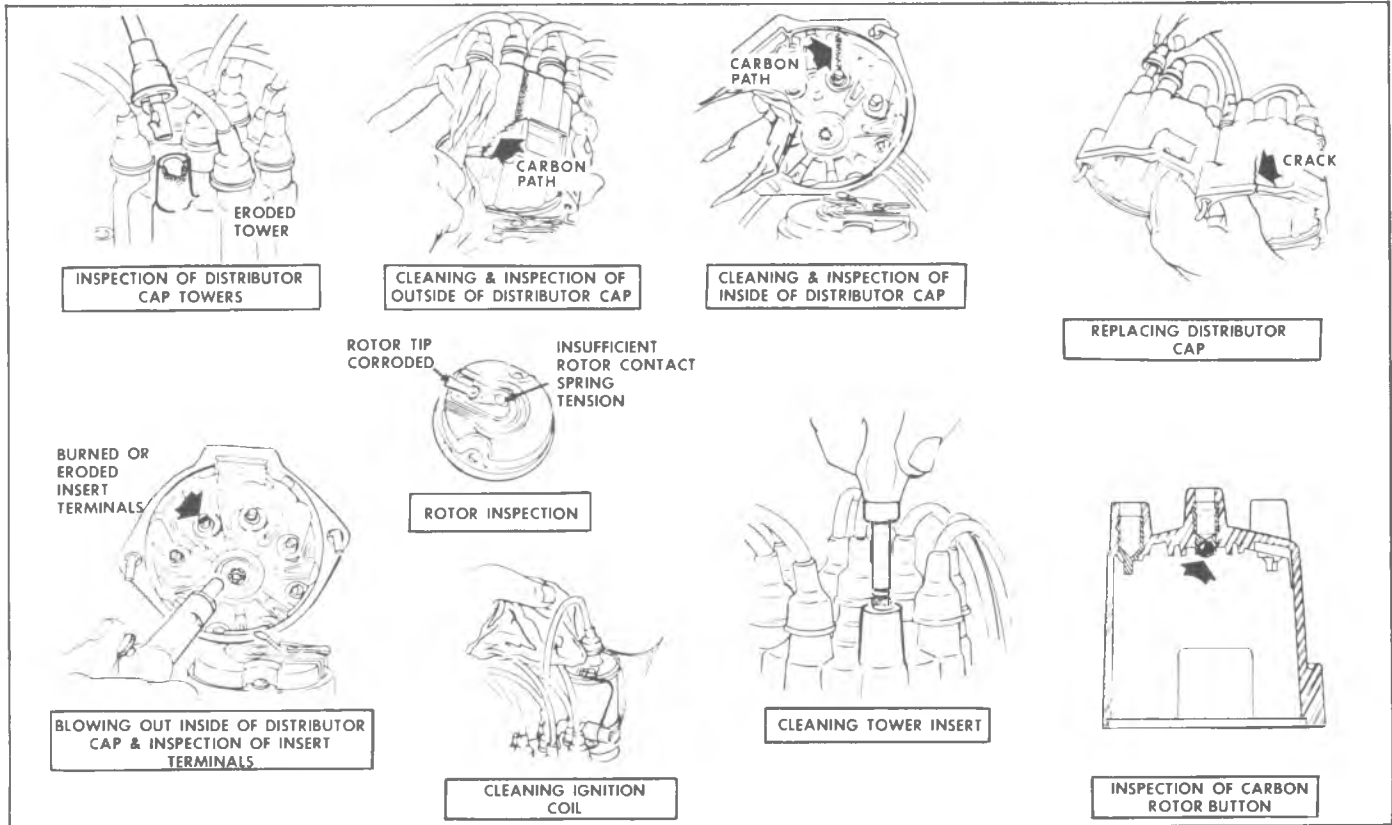

Fig. 3—Cleaning and Inspecting Distributor Cap, Rotor and Coil
1. Remove distributor cap, clean cap and inspect for cracks, carbon tracks and burned or corroded terminals. Replace cap where necessary (fig. 3).